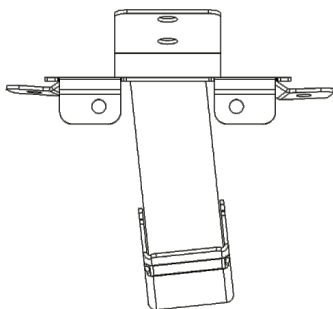

Figure 3
- a. Loosely assemble a Lower Visor Mount LVM to each of the 3 CBW's using (4) 1/4-20x5/8 carriage bolts, locknuts, and flat washers.
- i. Identify the driver vs passenger Outer Bracket Weldments. These Outer Bracket Weldments attach to the truck such that their square tubes lean inward (toward the center of the truck) relative to their mounting plate. **Proper orientation (driver vs passenger) of these Outer Bracket Weldments is critical to the successful assembly of visor. (See figures 3 & 4)**